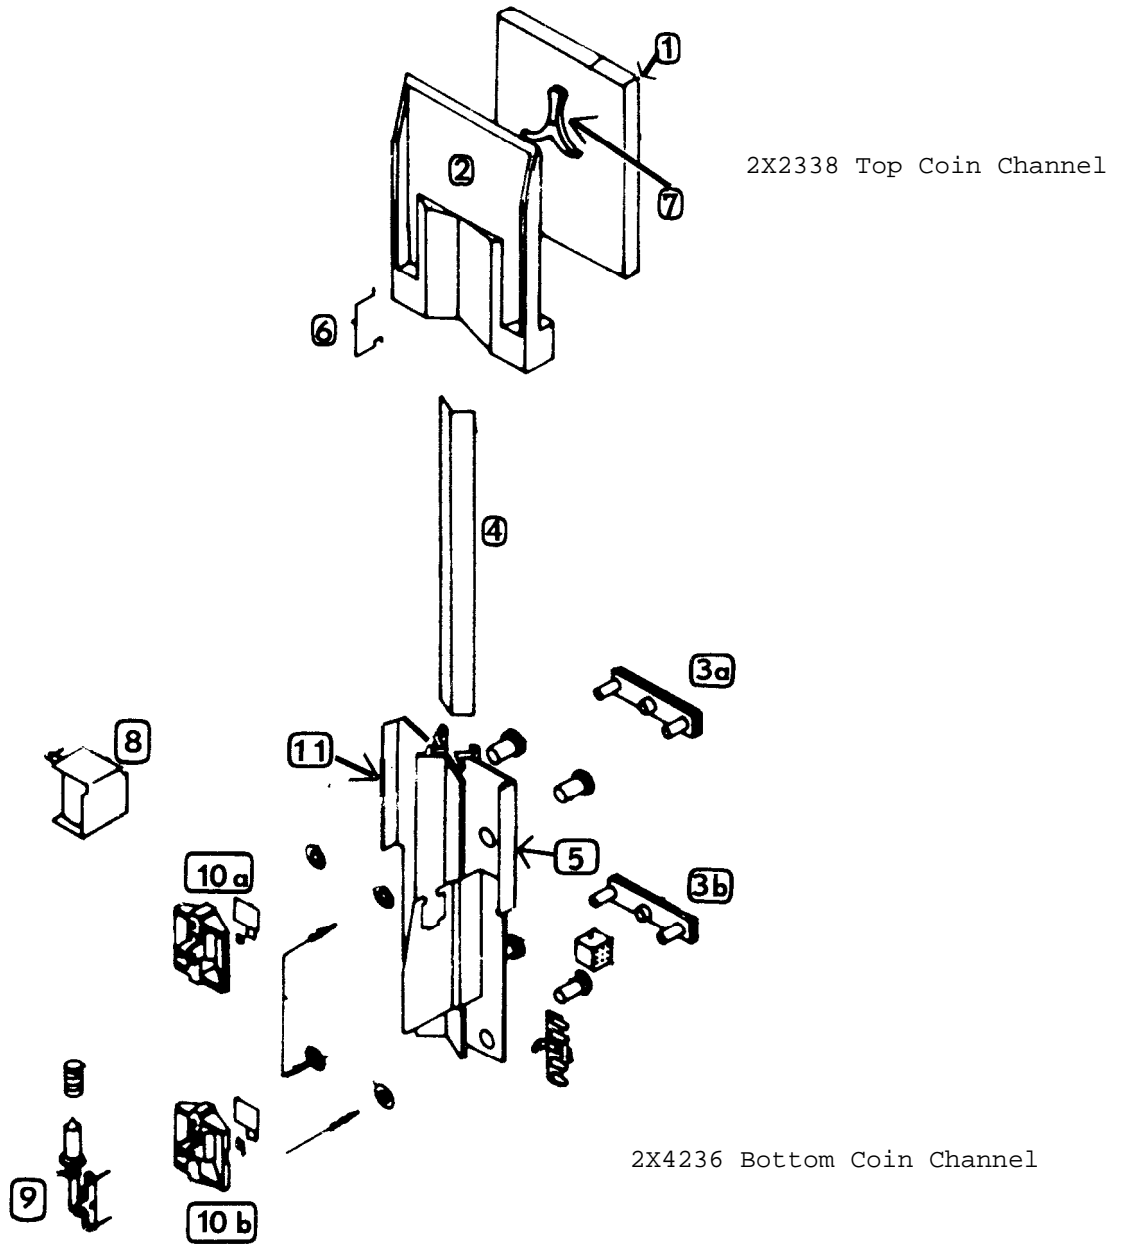

FIGURE 5
1. Remove upper channel front (item 1, figure 5). Clean upper channel back (black plastic, item 2, figure 5). Remove any burrs from top of upper channel back.
2. Remove emitter lamps (item 3, figure 5), remove coin channel from item 4, figure 5. With pipe cleaner or cotton swab, clean lower coin channel (item 5, figure 5).
Note: When reassembling the hopper, care should be taken to insure presence of toggle spring (item 6, figure 5). Top portion of spring should fit in crotch of toggle, (item 7, figure 5).
- d. The payout signal from the hopper control cards is fed through the hopper harness to the payout solenoid (item 8, figure 5) causing it to energize and de-energize, which in turn toggles the payout pin (item 9, figure 5) allowing coins to payout.
- e. Counting of the coins being paid out, is accomplished by the bottom emitter housing (light source), (item 3B, figure 5) and the bottom detector (item 10B, figure 5). This signal is generated by the detector seeing light after a coin passes.
- a. A signal is generated by the top detector (item 10A, figure 5), seeing the light from the top emitter housing (item 3A, figure 5). This signal is transmitted back to the hopper control cards, where a motor on signal is outputted.
- c. The hopper motor drives the coin channel (item 5, figure 5). When the top detector is covered by a coin, the motor turns off, ending the cycle.